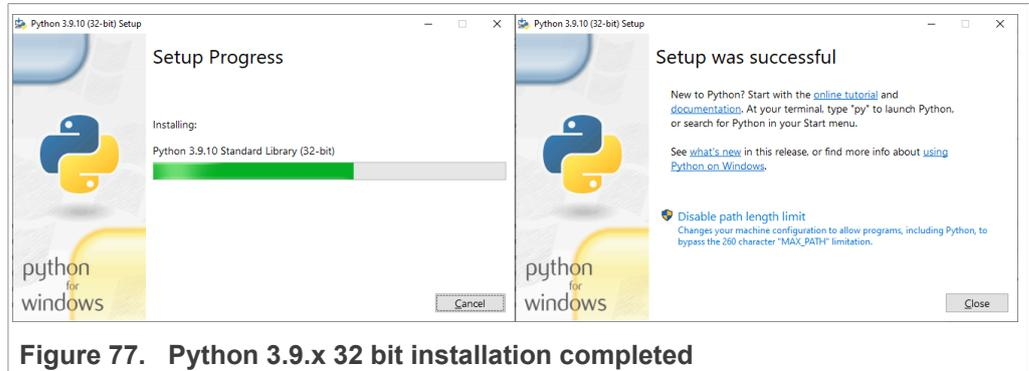

Figure 77. Python 3.9.x 32 bit installation completed
- 3. Wait a few seconds until the installation is completed as indicated in Figure 77